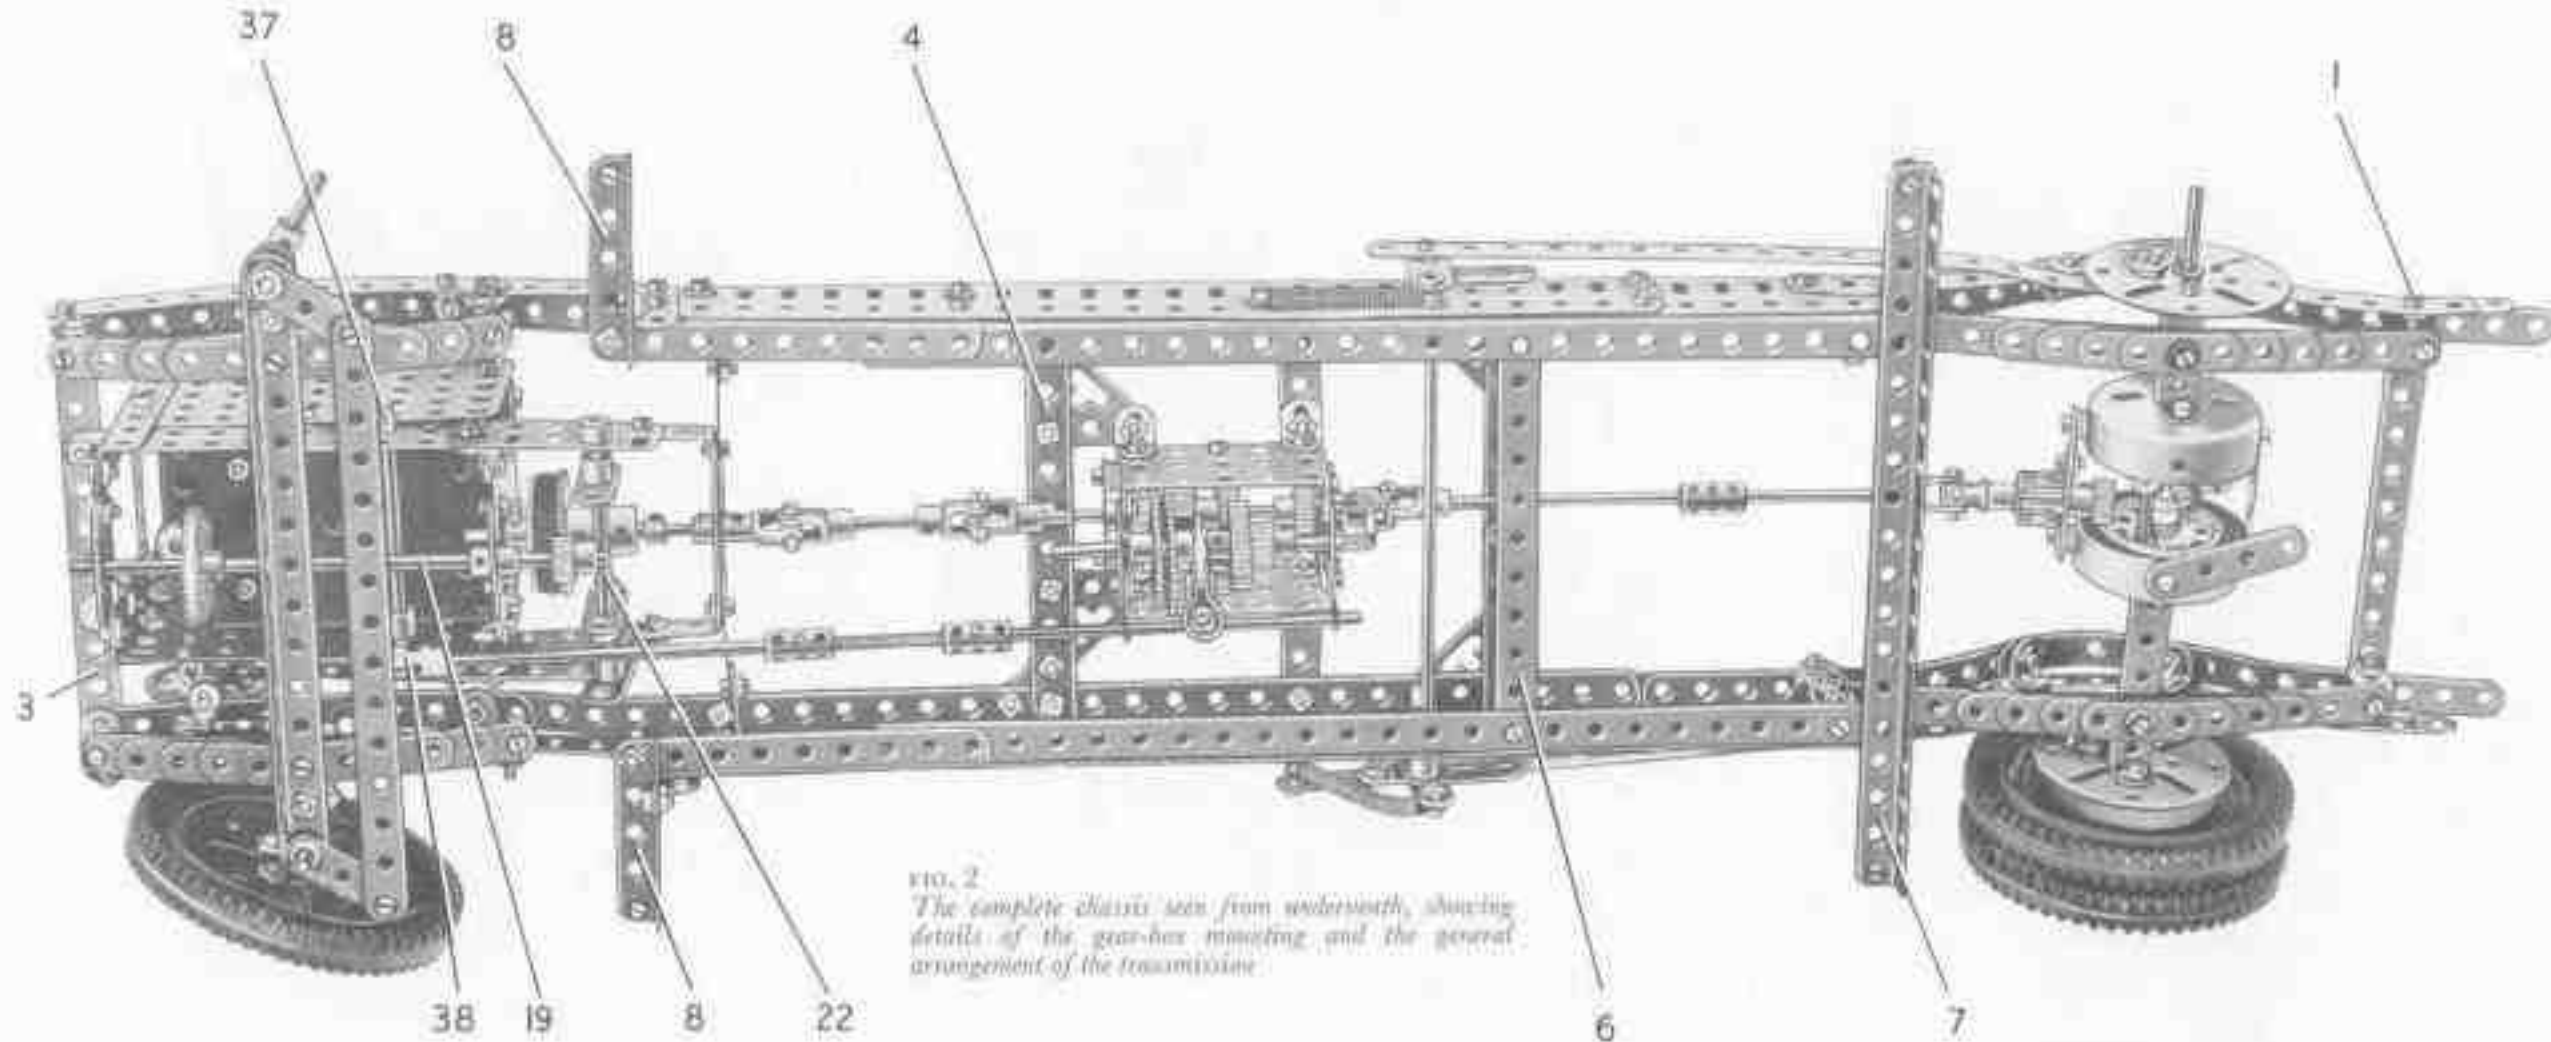
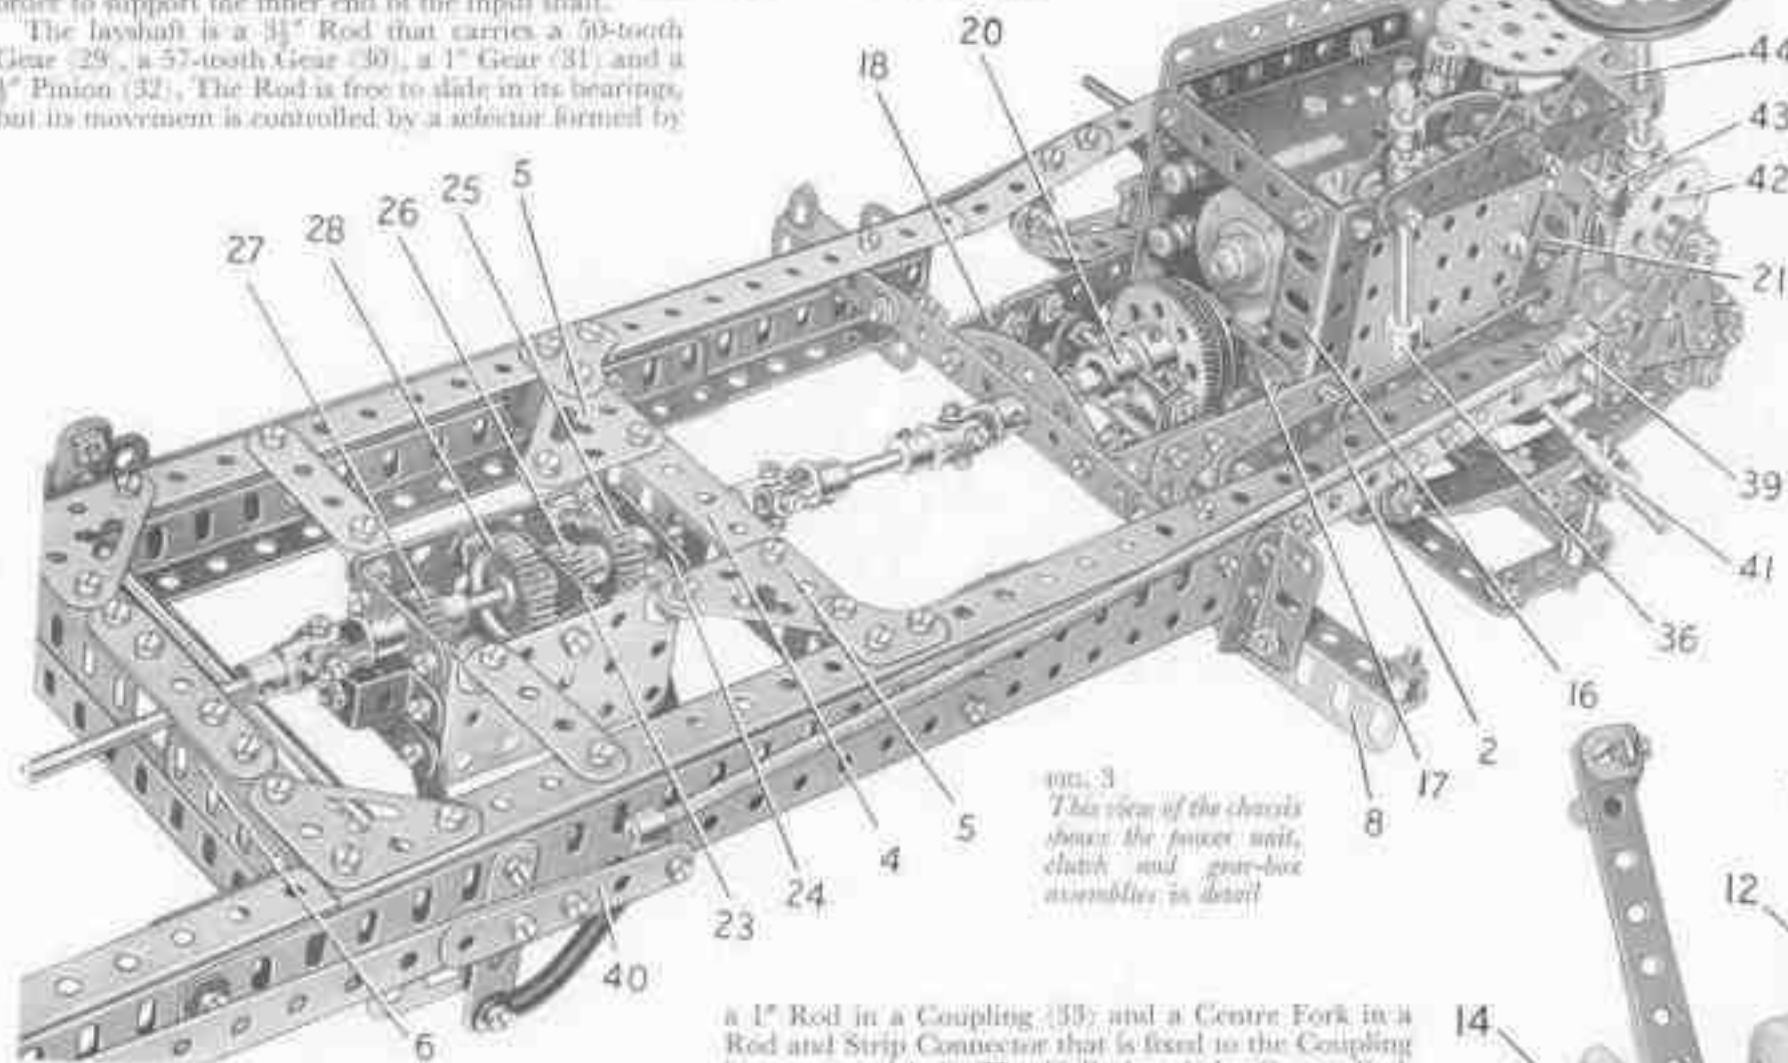
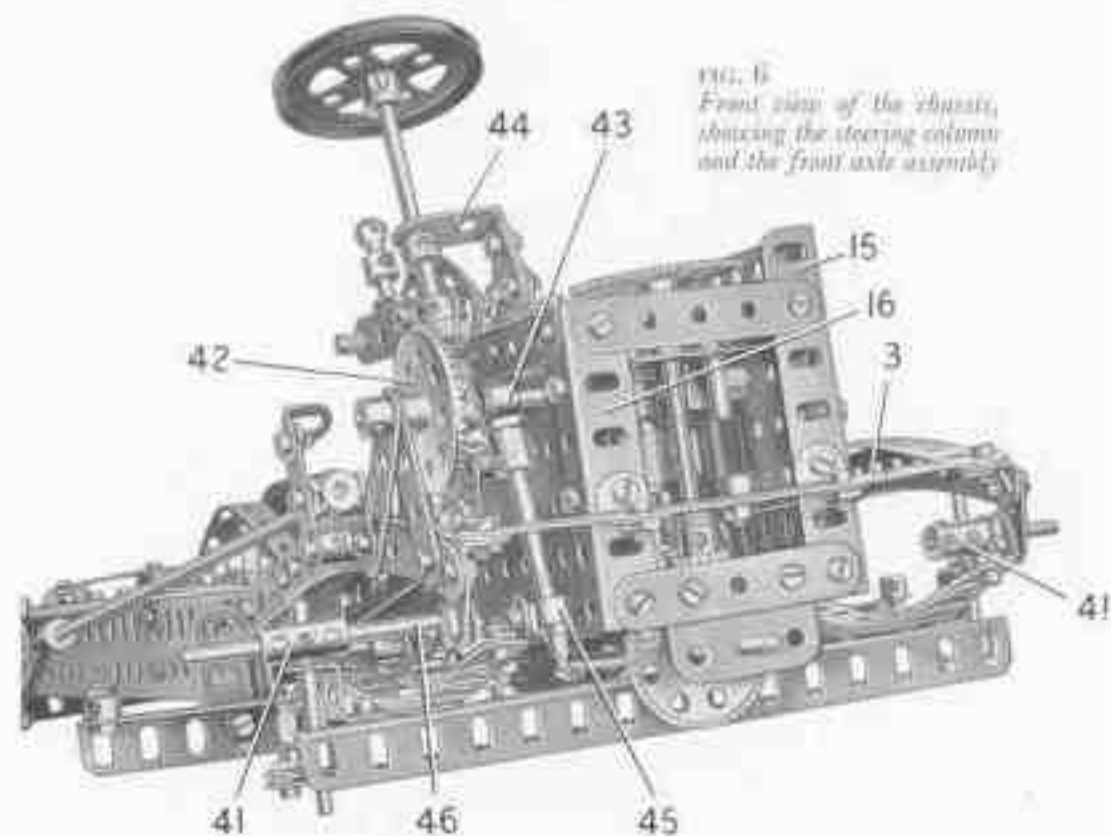

FIG. 2
FIG. 3
FIG. 6
#### Details of the Chassis (Fig. 2)
#### Engine Unit and Clutch (Figs. 2, 3 and 6)
One side of the engine unit consists of two  $4\frac{1}{2}$ " x  $2\frac{1}{2}$ " Flat Plates overlapped lengthways three holes and bolted to a  $3\frac{1}{2}$ " Angle Girder (15) (Fig. 6). An E15R Electric Motor is bolted to this
The pedal (21) (Fig. 3) for operating the clutch is made by bolting an Angle Bracket to a Double Arm Crank, which pivots on a  $\frac{1}{2}$ " Bolt fixed to the side of the engine unit by two nuts. A built-up strip, made from two 3" Strips overlapped three holes, is lock-waluted to the lower arm of the clutch pedal and is lock-waluted also to another Double Arm Crank on a  $3\frac{1}{2}$ " Rod (22). This Rod is mounted in the  $2\frac{1}{2}$ " Flat Girders of the unit, and is located in their slotted holes by Fishplates bolted to the Flat Girders. Two Double Arm Cranks, each fitted with a Threaded
The sides are connected at the front by two  $2\frac{1}{2}$ " Strips bolted to the Angle Girders, and at the rear are joined by a  $2\frac{1}{2}$ " Strip fixed to the Girder (16) of one side and attached to the other side by an Angle Bracket. Two  $2\frac{1}{2}$ " Strips, the upper one indicated at (17) (Fig. 3) are fixed also to the Girder (16), and are attached to the opposite side by Angle Brackets. A  $2\frac{1}{2}$ " Flat Girder is bolted to each side of the unit, and these are connected by a  $2\frac{1}{2}$ " x  $1\frac{1}{2}$ " Double Angle Strip (18), which is strengthened by a  $2\frac{1}{2}$ " Stepped Curved Strip.
#### Details of the Gear-box (Figs. 3 and 5)
The gear selector lever is fixed at its lower end in a Rod Socket (36) (Fig. 3). The shank of the Rod Socket is screwed tightly into a Collar on a  $\frac{3}{4}$ " Rod (37) (Fig. 2), which is mounted in the engine unit and carries a Crank. A Strip Coupling (38) is pivotally attached to the Crank by a  $\frac{1}{2}$ " Bolt, and is connected to the Rod (34) by a  $\frac{1}{2}$ " Rod, two Couplings and a Flexible Coupling Unit.
#### The Brake Operating Mechanism (Fig. 2, 3 and 6)
The brake pedal is made by bolting an Angle Bracket to a Crank pivoted on a  $\frac{1}{2}$ " Bolt attached to the chassis by two nuts (see Figs. 3 and 6). A Threaded Coupling (39) is locked by two nuts on a  $\frac{1}{2}$ " Bolt passed freely through the Crank, and an 11 $\frac{1}{2}$ " Screwed Rod is fixed in the Threaded Coupling by a nut. A Collar is fixed on the rear end of the Screwed Rod by a 2" Bolt, which is passed through the end hole of a built-up strip (40). This strip consists of a 9 $\frac{1}{2}$ " and a 2 $\frac{1}{2}$ " Strip overlapped three holes, and its rear end is lock-nutted to a  $\frac{1}{2}$ " Bolt passed through the Fishplate (13) (Fig. 6) of one of the brakes.
The strip (40) is pivotally connected to one arm of a Bell Crank (Fig. 3) by a lock-nutted  $\frac{1}{2}$ " Bolt, and a 2" Strip is also bolted to this arm. A Spring is fitted between the lower end of the 2" Strip and the  $\frac{1}{2}$ " Bolt in the Collar at the end of the 11 $\frac{1}{2}$ " Screwed Rod. The Bell Crank is fixed on one end of a  $\frac{1}{2}$ " Rod mounted across the chassis, and another Bell Crank is secured to the other end of the Rod. A 2" Strip is bolted to the second Bell Crank and a Spring is fitted between the lower end of this Strip and the chassis. A 9 $\frac{1}{2}$ " Strip is lock-nutted to the Bell Crank and to the Fishplate (13) of one of the brakes, in the same way as the strip (40).
#### Front Axle and Steering (Figs. 2, 3 and 6)
The front axle beam is a  $7\frac{1}{2}$ " Angle Girder (Fig. 2) and is attached to two leaf-springs, each of which consists of a  $5\frac{1}{2}$ ", a  $4\frac{1}{2}$ ", a  $3\frac{1}{2}$ ", a  $2\frac{1}{2}$ " and a  $1\frac{1}{2}$ " Strips. An Angle Bracket is fixed to each end of each spring, and these are *lock-nutted* to Fishplates bolted to the chassis. A  $\frac{1}{2}$ " Reversed Angle Bracket is fixed to each end of the axle beam.
Each front wheel is freely mounted on a 1" Rod fixed in a Coupling (41) (Figs. 3 and 6). The wheels are held on the Rods by Collars. The Couplings (41) are fixed on 2" Rods supported in the ends of the axle beam and in the  $\frac{1}{2}$ " Reversed Angle Brackets. Cranks fitted to the lower ends of the 2" Rods are connected by a  $7\frac{1}{2}$ " Strip pivoted on *lock-nutted* bolts.
A  $1\frac{1}{2}$ " Bevel (42) is fixed on a 2" Rod, and a Coupling is freely mounted between this Bevel and a Collar (43). The 2" Rod is supported in one side of the engine unit and in the top holes of a 2" Strip, and a 2" Slotted Strip, each of which is attached to the chassis as shown (Fig. 6). The steering column is a  $3\frac{1}{2}$ " Rod free to turn in the Coupling on the 2" Rod, and it carries a  $\frac{1}{2}$ " Bevel that engages the Bevel (42). The steering column is supported by a  $1" \times 1"$  Angle Bracket (44), bolted to a 1" Corner Bracket attached to the engine unit by two Angle Brackets.
A Rod Socket is screwed into the Collar (43) and is fixed in place by a nut. A 2" Rod in the Rod Socket carries at its lower end one half of a Dog Clutch (45), and to this a Rod and Strip Connector is pivotally attached by a nut and bolt. The Rod and Strip Connector is joined by a  $1\frac{1}{2}$ " Rod to a similar part pivoted on a bolt screwed into a Collar on a  $1\frac{1}{2}$ " Rod (46). Rod (46) is fixed in one of the Couplings (41) (Fig. 6).
Girders (7) and (8) (Fig. 2). At the front the body is spaced from each of the Girders (8) by a Collar.